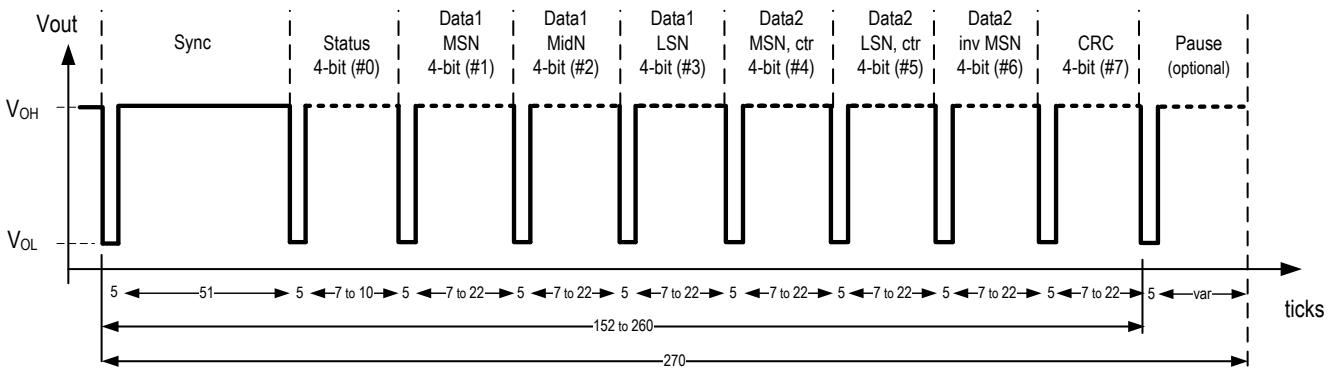

Figure 15. SENT Frame
1. 12-bit position data + 8-bit rolling counter (“ctr” in Figure 15) + inverted copy of Data1 MSN (nibble #1 in Figure 15) + cyclic redundancy check (CRC). In this option, the SENT frame length is between 152 and 260 ticks with a variable frame length and 270 ticks with a fixed frame length.